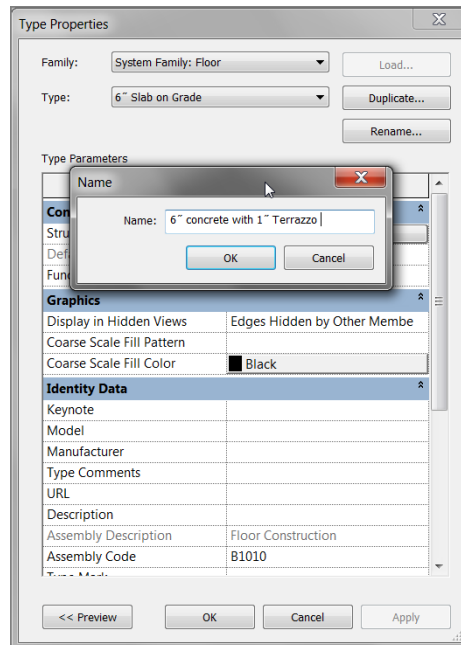

FIGURE 6.19: Duplicating the existing floor
6. Call the new floor **6" concrete with 1" Terrazzo** (see Figure 6.19). For metric users, it's 150mm concrete with 25mm Terrazzo.